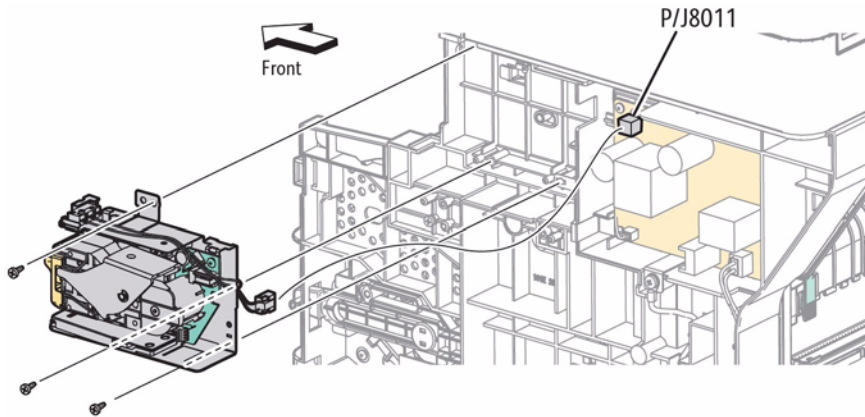

Figure 2 Remove the Stapler Assembly
7. Refer to Figure 2 to locate and remove 3 screws (silver, tapping, M3, 8mm) that secure the Stapler Assembly to the chassis.